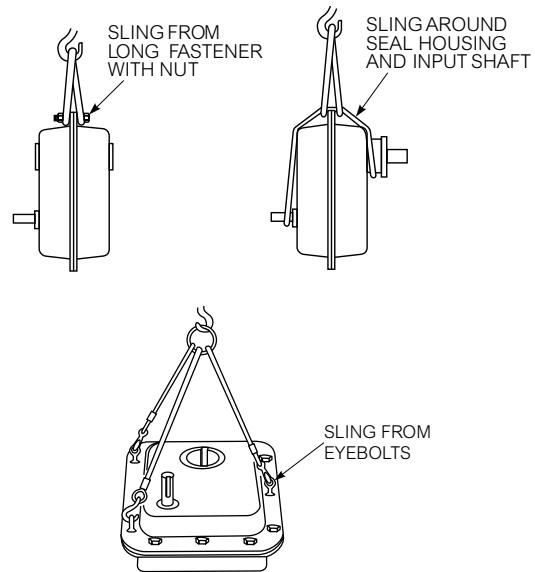

Figure 1
- JR, JF, & JSC** — Refer to Figure 1 for recommended lifting method. In order to sling JR & JF as illustrated, remove a housing flange fastener and install a long fastener with nut. For vertical installation, use (3) eye bolts as illustrated. Eyebolt sizes are 5/16" for 5107 and 5115, 3/8" for 5203 and 1/2" for 5207 thru 5315. DO NOT remove sling until drive is secured to shaft. Before lifting the drive into position, rotate the high-speed shaft until the hollow shaft keyway will be in position to line-up with the driven shaft key.